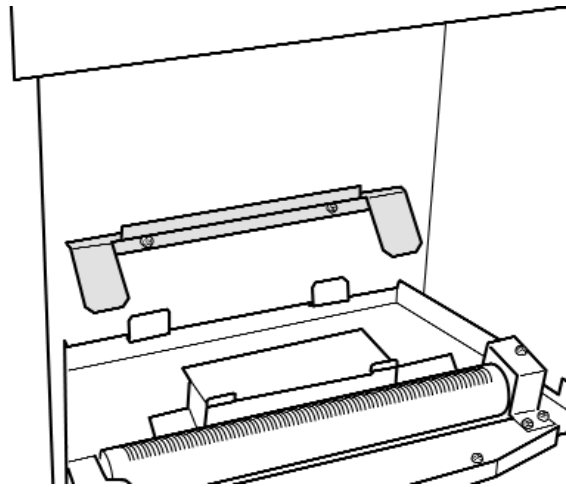

Figure 16. Fitting the rear ceramic support.
7. This appliance is supplied with a rear ceramic support bracket. Fit this using two screws supplied (See figure 16).